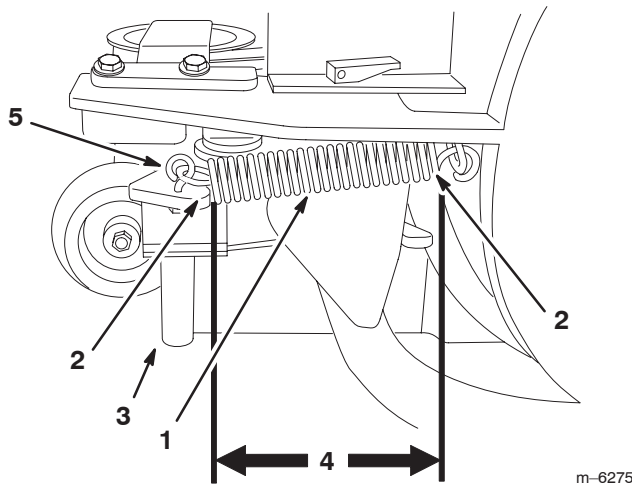

Figure 32
Note: When checking the belt tension, the spring length needs to be **between 4 inches and 4-3/4 inches** (102 and 121 mm) (Fig. 32).
3. Close the blower assembly and measure between the spring coil ends. See Figure 32 for measuring the spring length and eye hook orientation.
Note: When adjustment is needed, set the spring length to **4-3/4 inches (121 mm) +/- 1/4 inch (6 mm)** (Fig. 32).